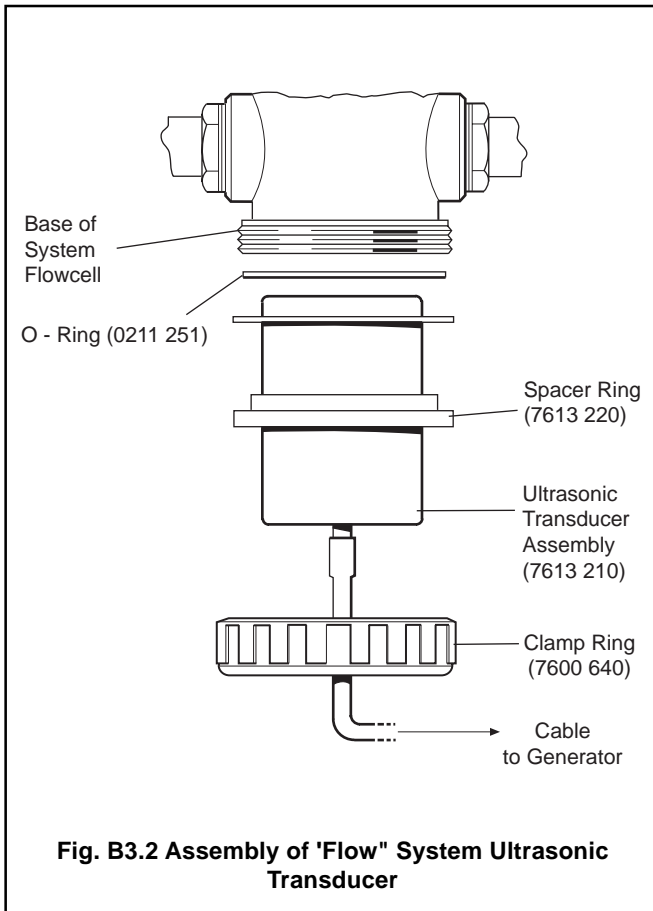

Fig. B3.2 Assembly of 'Flow' System Ultrasonic Transducer
- c) Fit the O-ring taken from the base plate into position on top of the weld on the transducer assembly – see Fig. B3.2.
The 'add-on' kit for converting an existing 76517660 flow system contains the following items, as shown in Fig. B3.2: